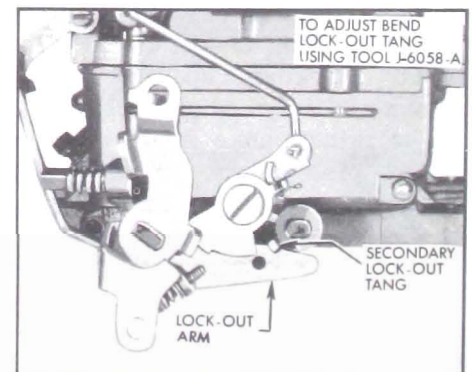

Figure 3-54—Secondary Throttle Lock-Out Adjustment
8. Adjust Secondary Throttle Lock-Out. Open primary throttle valves slightly to clear fast idle cam and manually open and close choke valve. Lock-out tang on secondary throttle should freely engage in notch of lock-out dog while barely missing edge of notch. If necessary to adjust, bend tang on secondary throttle lever using Tool J-6058-A. See Figure 3-54.